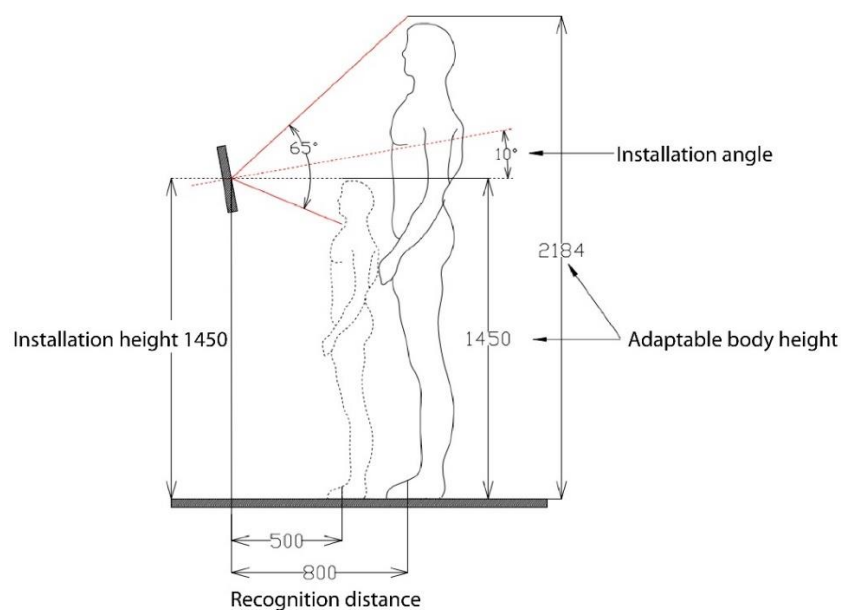

Figure 9.4 Slant installation
In the slant installation mode, the installation angle (β) is set to 10° , and the installation height (H) is set to 1.45 m. If a person can be recognized at a distance of 0.5 m to 0.8 m, the module can adapt to individuals with height is between 1.45 m and 2.18 m, as shown in Figure 9.4.